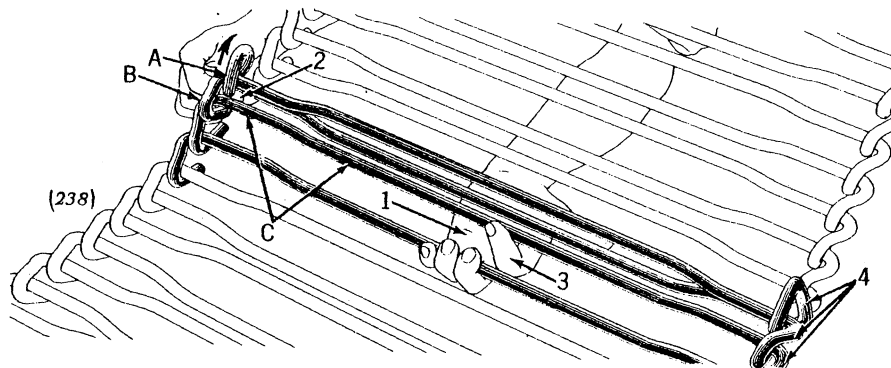

Figure 8
1. (Figure 8) Grasp four links with the LEFT hand and draw them together to obtain all possible slack.
2. (Figure 8) With the forefinger of the RIGHT hand push link "A" up and back in the direction of the arrow.
3. (Figure 8) Using the forefinger of the LEFT hand push link "C" down and back between the openings in links at "A" and "B."
4. (Figure 8) When link "C" is disconnected, maintain the relative position of the links by holding the links with the RIGHT hand instead of the LEFT hand and then proceed with the LEFT hand to disconnect the other ends of the links at "4" following the same procedure as in steps "2" and "3" above.